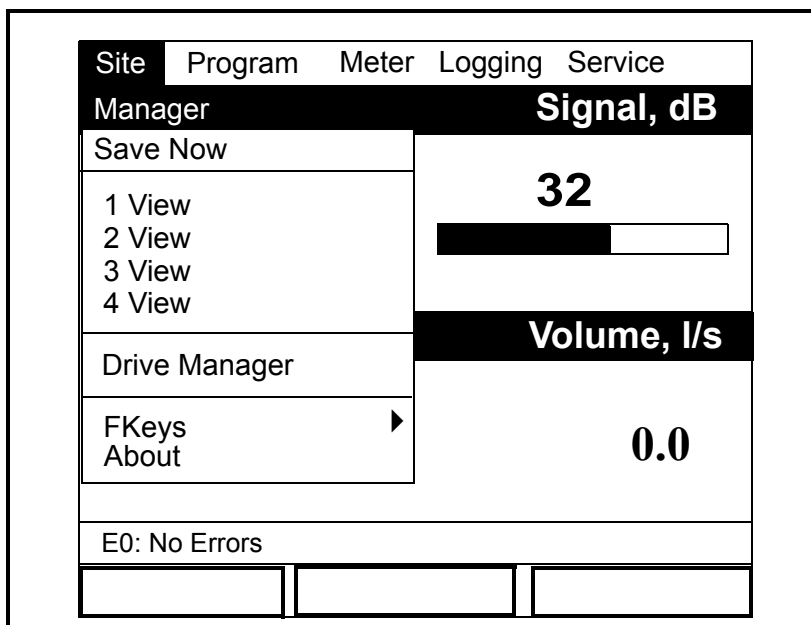

Figure 3-6: The Site Menu
2. With the *Site Menu* highlighted, press [ENTER] and a screen similar to Figure 3-6 below appears.
2. With the *Site Menu* highlighted, press [ENTER] to open the *Site Menu* window (see Figure 3-6 on page 3-7).